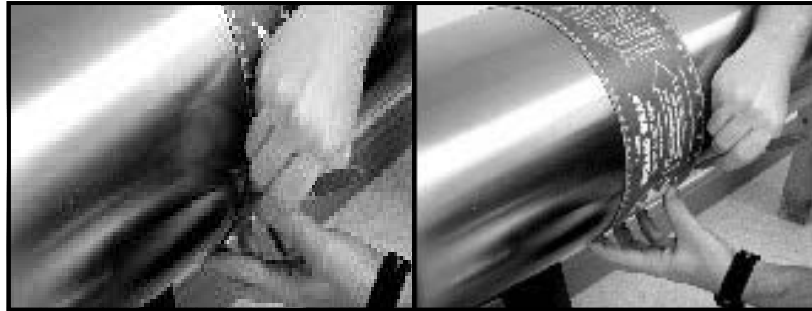

Figure 12: Marking Circumferential Lines on the Pipe
2. Tightly wrap the layout wrap once around the entire pipe and line up the edges. Using the wrap as a template guide for marks, mark scribe lines around the entire diameter of the pipe, as shown in *Figure 12* below.